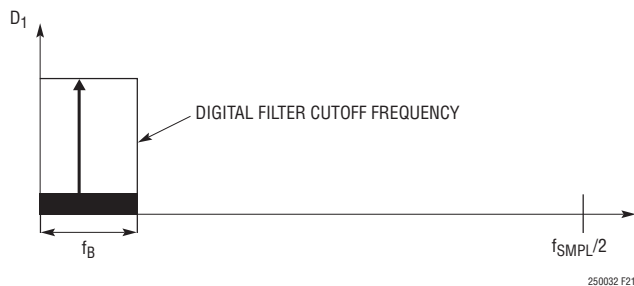

Figure 21. Frequency Spectrum of Digital Filter Core Output
The digital filter integrated in the LTC2500-32 suppresses out-of-band noise power, thereby lowering overall noise and increasing the dynamic range (DR). The lower the filter bandwidth, the lower the noise, and the higher the DR. Figure 21 shows the corresponding frequency spectrum of  $D_1(n)$  at the output of the digital filter, where noise beyond the cutoff frequency is suppressed by the digital filter.